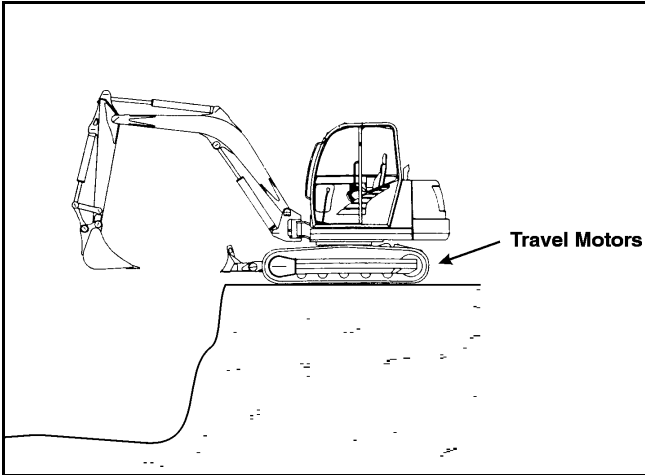

Figure 3-29 Machine Position for Excavating
- **When working close to the excavated edge, be sure that the ground on which the machine is sitting is solid. Keep the travel motors to the rear. See Figure 3-29.**